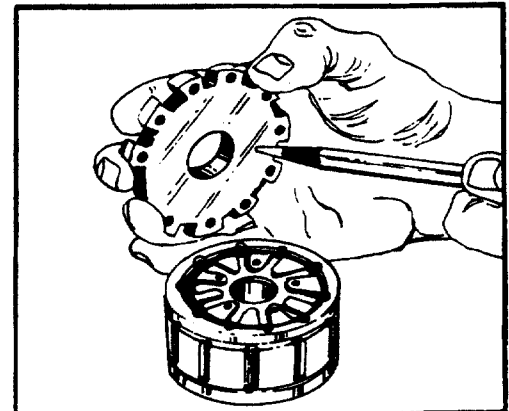

FIGURE 24.
inspect commutator cover 29. Inspect the ground surfaces of the commutator cover (20). You should notice a "normal" polished pattern due to the rotation of the commutator (22). If the cover has nicks, burrs, or scoring, it must be replaced. See figure 24.